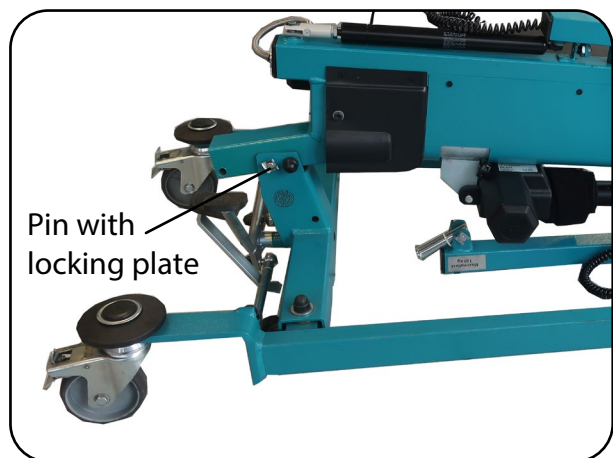

Fig.13.2.04 – Locking the stand mast
5. Lock the stand mast in place on the stand mast holder with the pin and the locking plate (Fig. 13.2.04).